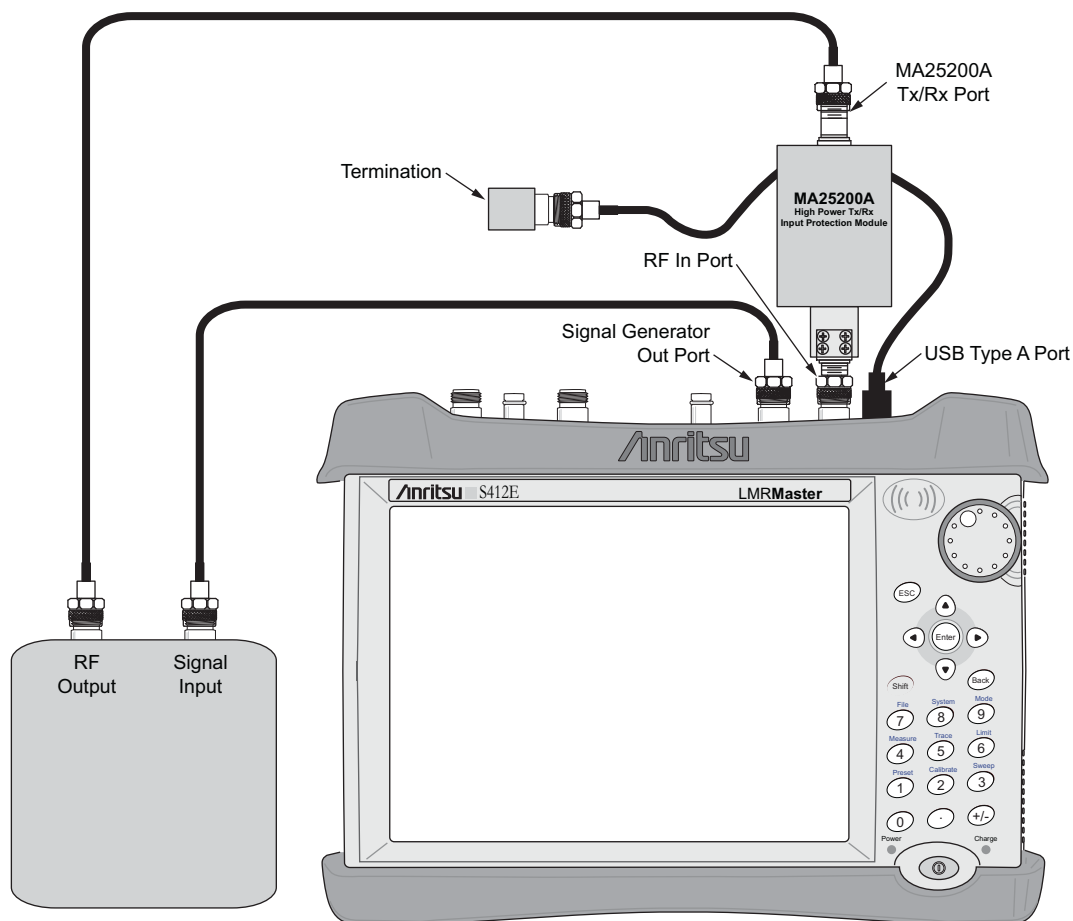

Figure 12-4. Base Station Transceiver connected to LMR Master with a MA25200A High Power Tx/Rx Input Protection Module
1. Connect the equipment as shown in Figure 12-4: